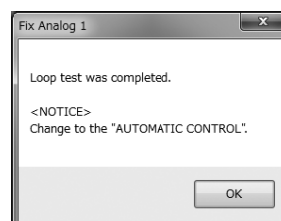

Fig.125
- ⑤ After the "Stop" button is clicked, a message box (Fig. 125) will be displayed. Click the "OK" button.